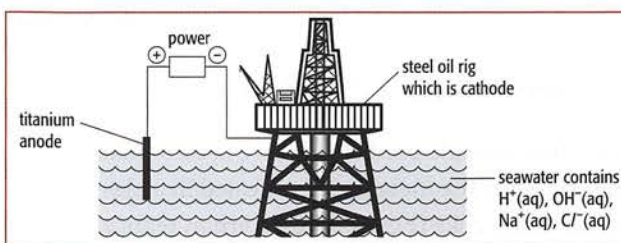

Figure 9.9 The electrolytic protection of an oil rig's structure.
- ◆ **Electrolytic protection:** Large, static steel structures can be protected by this method. It involves setting up an electrolytic cell using the iron or steel object as the negative electrode of the cell. An inert electrode and a power supply are needed to complete this form of protection, which is used to protect oil rigs, for example (Figure 9.9).